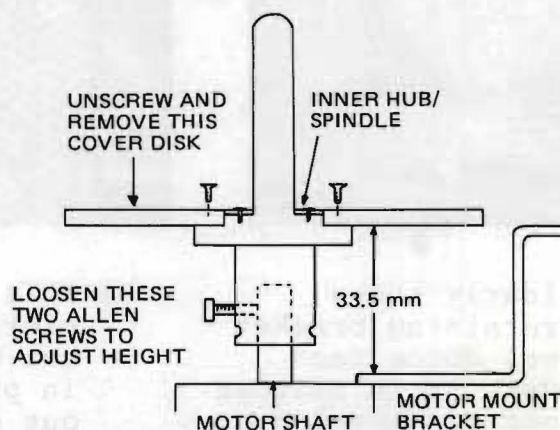

FIGURE 5-5. REEL TURNTABLE HEIGHT ADJUSTMENT
2. Unlatch and lift up the transport. Then, from below, reach into the reel turntable area and push out each turntable cover plate, which should drop into your other hand on the top of the transport. This exposes the support hub/spindle assembly, the motor shaft, and the motor mount bracket. (See figure 5-5).
3. Close the transport, measure the height from the top of the supply or takeup motor mount bracket to the top of the reel turntable support hub; it should be 33.5 mm (figure 5-5). If necessary, loosen both hex head set screws which secure the support flange to the motor shaft, slide the hub up or down to obtain the correct height, and retighten the set screws on the flats with symmetrical torque.